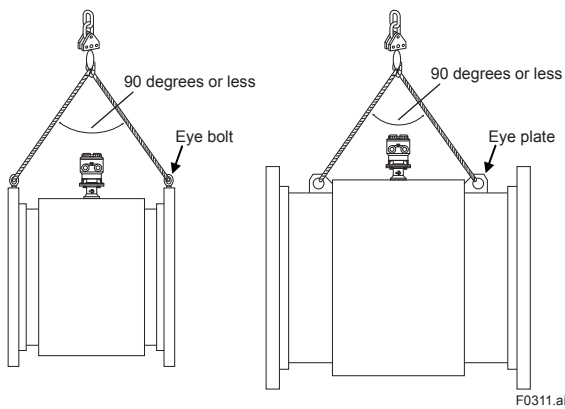

Figure 3.3.1 Lifting
- To assure safety, keep lifting angle less than 90 degrees as shown in Figure 3.3.1
(3) Transportation and Positioning